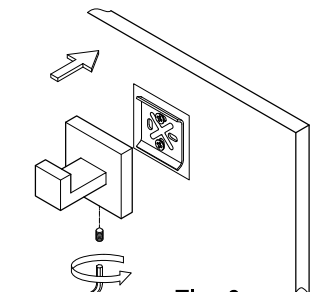

Fig. 6
- Step 7. Insert the unit with holes facing down to the bracket and tighten setscrews with an Allen wrench until the base is tight and secure (fig 6).